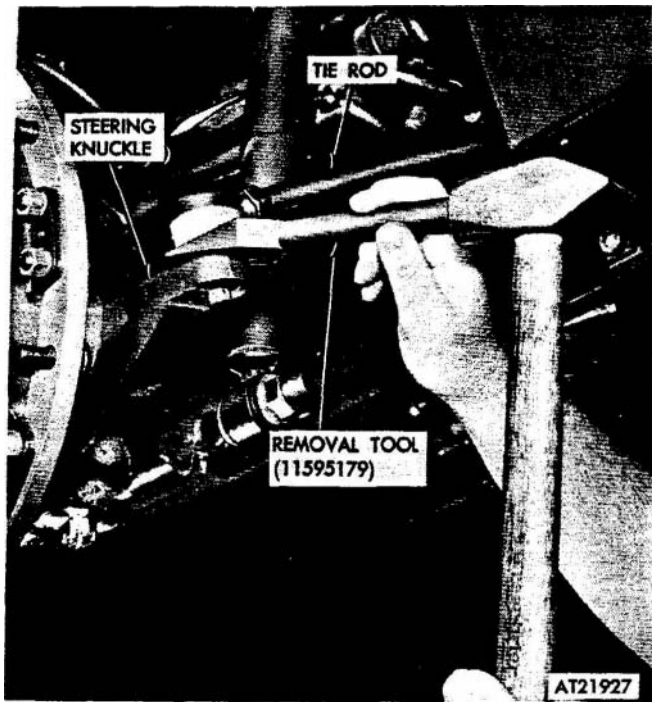

Figure 2-274. Tie rod removal tool.
(2) Separate tie rod end from steering knuckle, using removal tool (11595179) (fig 2-274).
(3) Remove cotter pin, washer and nut securing other end of tie rod to carrier intermediate rod or from tractor pitman or idler arms and separate using removal tool (11595179) (fig 2-274).